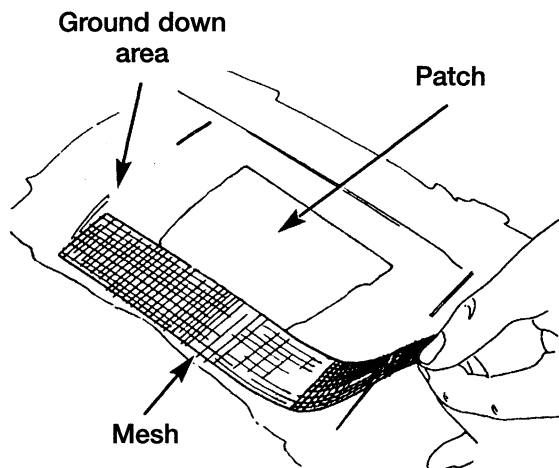

Fig. 8 Cover Gaps with Mesh
18. Apply adhesive backed nylon mesh (drywall tape) over gaps around patch (Fig. 8).